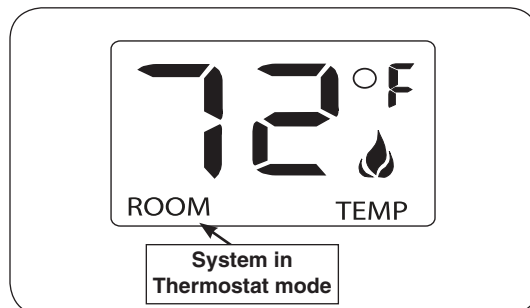

Fig. 43-4 Thermostat mode - default screen
- **Thermostat Mode (Fig. 43-4):** In this mode, the fireplace will remain functioning until the room temperature increases 2°F above the set temperature.